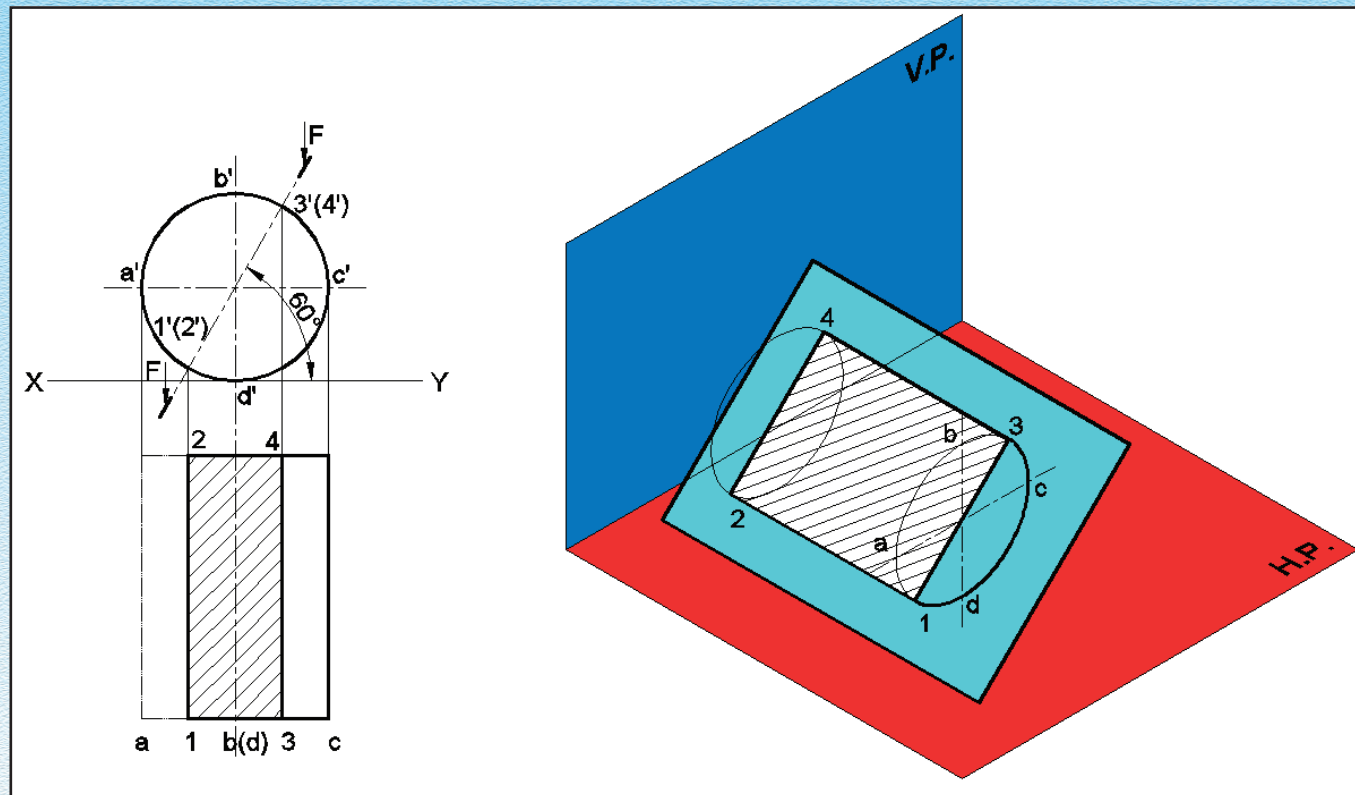

Fig. 5.20
Solution : Refer to fig. 5.20
3. Locate the POIs 1', 2', 3', 4' in Front View cutting the circular faces as shown pictorially in Fig. 5.20 (b).